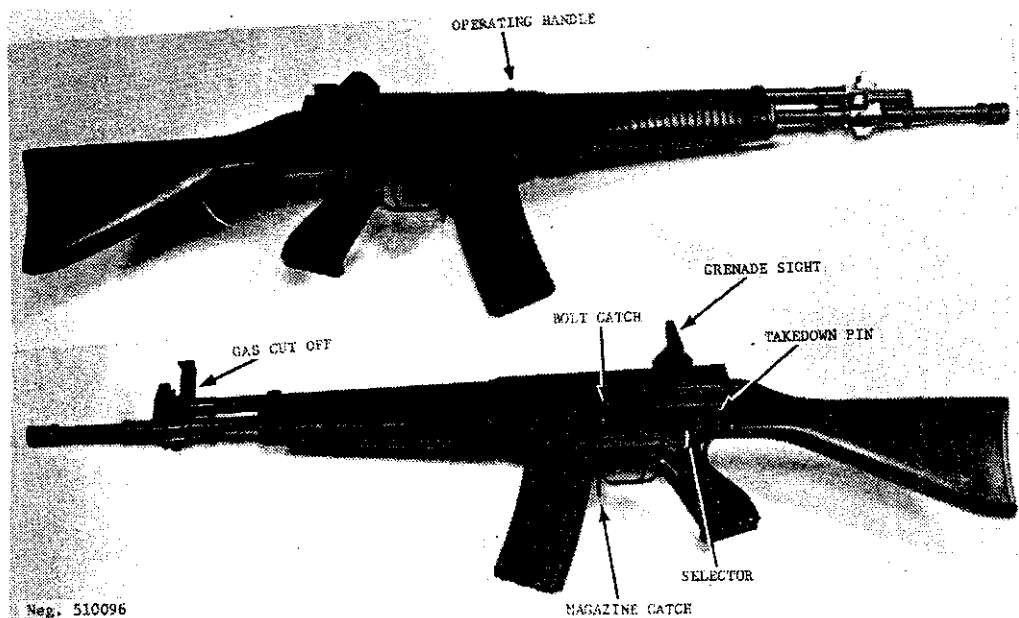
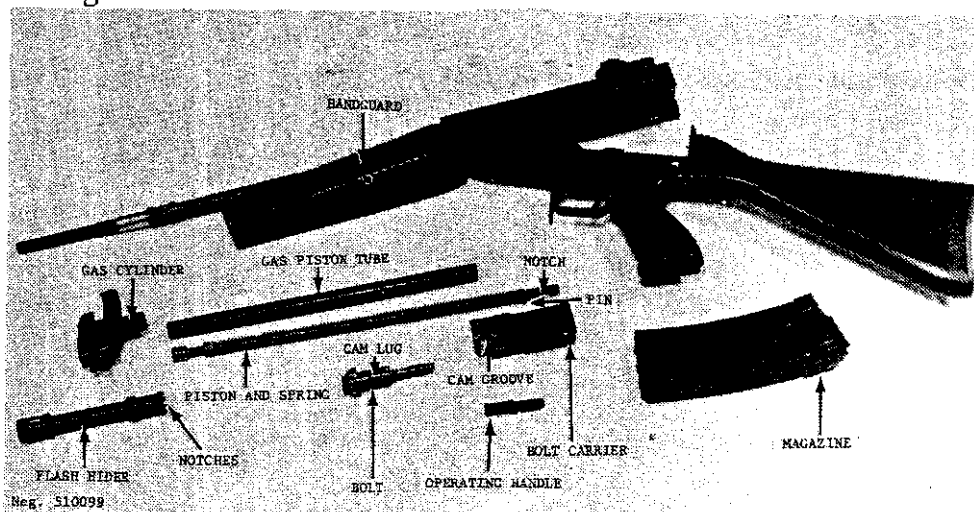

Figure 97. Italian Beretta M70/.223 rifle.
Figure 100. Beretta M70/.223 disassembled.
a. The 5.56-mm Beretta M70/.223 rifle is the most recent military rifle developed by the Beretta firm of Italy. The M70/.223 is made as a conventionally stocked rifle (fig 97), as a folding-stock rifle (fig 98), and as a light machinegun (fig 99). All of these variant weapons use the same mechanism and magazine; the differences lay in the different type stocks used and in the heavy barrel and bipod of the machinegun.
b. Grasp the operating handle (fig 97), pull it fully rearward, and release it. CAUTION: The rifle is now loaded and ready to fire. If the rifle is not to be immediately fired, place it on safe by rotating the selector (fig 97) to the vertical position, indicated by the letter "S".
d. Remove the empty magazine by pressing the magazine catch (fig 97) toward the magazine and pulling the magazine out of the rifle. The bolt can be closed either by pulling the operating handle rearward and releasing it or by pressing in the top of the bolt catch (fig 97) inward.
e. To clear the rifle, set the selector (fig 97) to the safe (vertical) position "S". Press the magazine catch toward the magazine and pull the magazine out of the rifle. Press in the bottom of the bolt catch (fig 97) and, while holding it in, pull the operating handle fully rearward and release it. The bolt will be caught open. Inspect to insure that no cartridges are present. Press in the top of the bolt catch, rotate the selector off safe, and press the trigger. Insert the magazine.
marked on the tail boom if a bullet trap is incorporated. If it is not positively known that the grenade has a bullet trap, clear the rifle and insert a bulletless, crimped grenade cartridge into the chamber. Slide a grenade over the grenade launcher and seat it fully. Erect the front and rear grenade sights (fig 97). (Note: The front sight is only an indicator that the gas mechanism has been turned off to protect the rifle's mechanism.) Aim, using the appropriate 50-, 75-, or 100-meter aperture in the rear grenade sight and the regular front sight post, and press the trigger. Pull the operating handle rearward to eject the fired cartridge case.
a. Clear the rifle (without moving the safety off safe), press the trigger, or insert the magazine. Press out the takedown pin (fig 97) from left to right and swing open the receiver (fig 100). Pull the operating handle retainer (fig 98) to the rear with the point of a bullet and pull out the operating handle. Hold a hand behind the receiver opening and point the muzzle upward; the bolt unit will emerge from the rear of the receiver. If necessary, partially engage the operating handle with its hole in the bolt carrier and pull the bolt unit to the rear until it can be removed. Pull the bolt (fig 100) forward in the carrier (fig 100), twisting the bolt at the same time until it comes out of the carrier.
b. In the front of the gas cylinder is a small plunger that seats in the notches of the flash hider (fig 100). Push the plunger in and unscrew the flash hider (right-hand thread). Pull the gas cylinder (fig 100) forward, off the barrel, and pull the gas piston tube (fig 100) forward and remove it. Push the piston (fig 100) rearward slightly, against the pressure of its spring, until the piston can be rotated. Ease the piston forward, then rotate it until it comes free.
c. The handguard (fig 100) can be removed by pulling down on its front end until it comes off the barrel. Rotate the handguard down until it can be removed.
f. Insert the piston into the receiver. The small pin (fig 100) must be aligned with its slot in order to enter the receiver. Once in the receiver, rotate the piston so that the notch for the operating handle (fig 100) faces down and the pin seats in its recess to prevent rotation of the piston. Slip the piston tube over the piston and seat it in the receiver.
i. Insert the bolt carrier into the receiver, bolt first, and move it fully forward. Insert the operating handle into its hole in the bolt carrier (forcing the retainer rearward) until the retainer snaps into place. Pull the operating handle rearward to insure that it has engaged the piston, and spring pressure is felt. Close the receiver, push the takedown pin (fig 97) home, move the safety off safe, press the trigger, and insert the magazine.